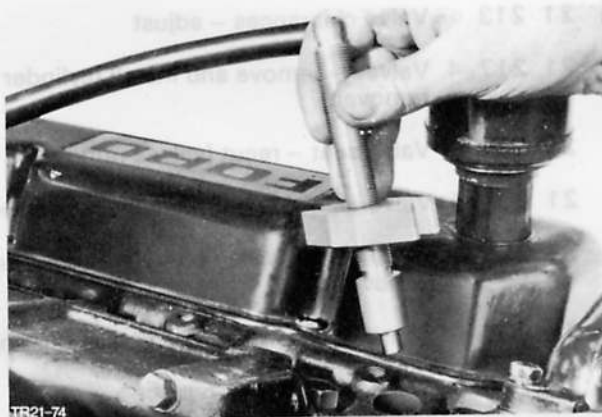

Fig. 8. Install compression tester adaptor into orifice
5. Screw compression pressure tester with new graph paper to injector nozzle orifice concerned, Fig. 8 and crank engine until pointer of tester rises no further (compression pressure data see Technical Data).